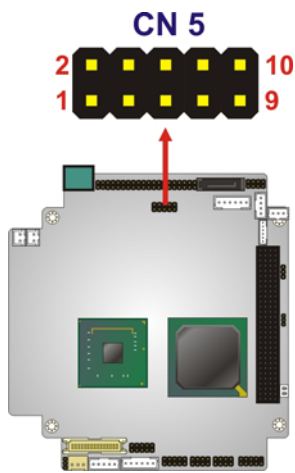

Figure 3-9: Digital I/O Connector Locations
- CN Location:** See **Figure 3-9**